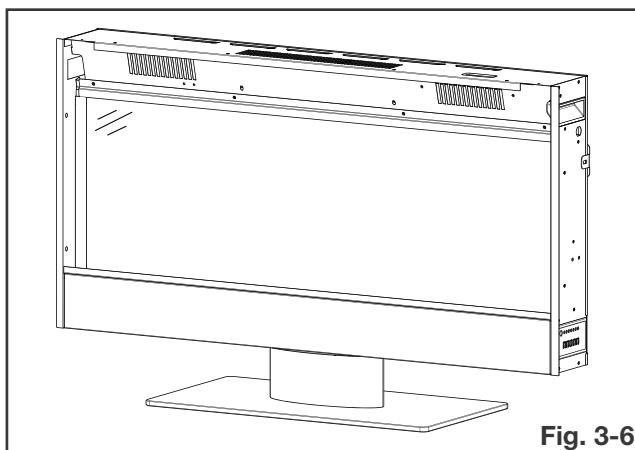

Fig. 3-6
- G. Check if the glass stand is secured properly. Ensure appliance is standing straight and still (**Fig. 3-6**).